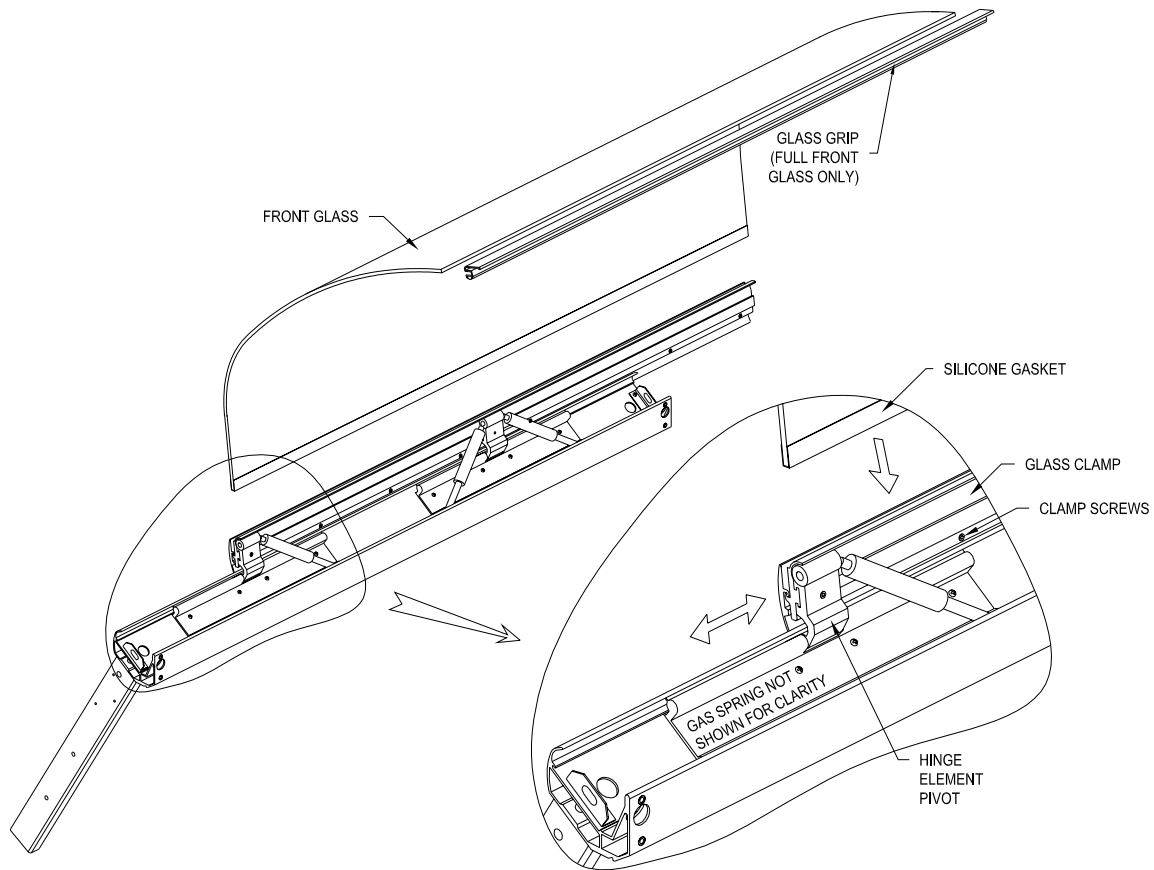

Figure 21. Front Glass & Clamp
2. Loosen the clamp screws along the length of the glass clamp (see Figure 21). Loosen the set screws so that they protrude from the glass clamp approximately 1/16 inch.
4. Slide the silicone gasket in place on the clamped edge of the replacement front glass (see Figure 21).
10. Loosen the clamp screws in the hinge element pivots (see Figure 21).
12. Slide the replacement glass clamp into the hinge element pivots from the end of the case with the end removed. The “T” shaped extrusion on the bottom of the glass clamp fits into the “T” shaped cut in the hinge element pivots (see Figure 21).